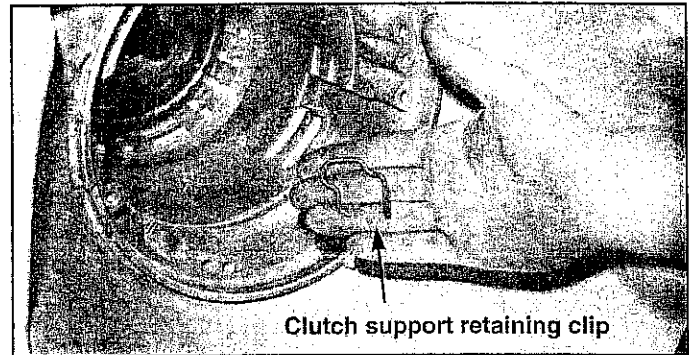

FIGURE 15
STEP 23. Remove the clutch support retaining clip from the case. (See Fig. 15) This is a U-shaped clip near the side of the case. It probably fell out of position when the support was removed. Set the clip in the oil pan.